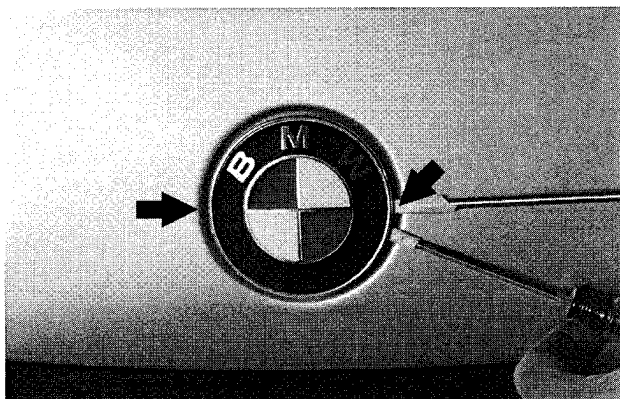

Fig. 15. BMW emblem being removed. Pry up emblem carefully on either side (arrows). Note tape on screwdriver tips.
2. Carefully pry out emblem. See Fig. 15.